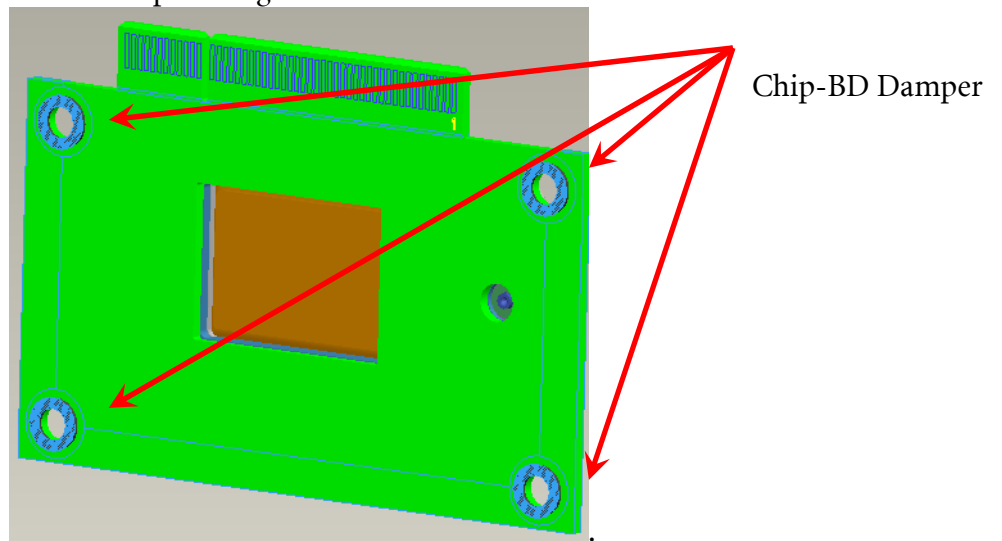

Fig. 4-5
4.4 Place Damper on the surface of Chip-BD Fig. 4-5.